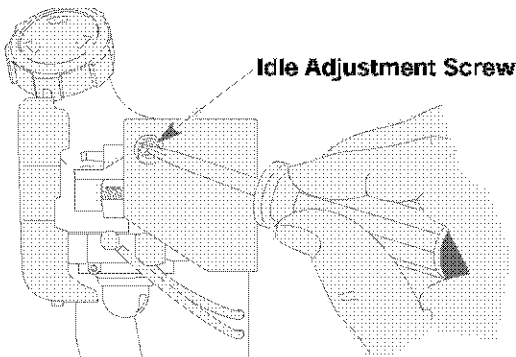

Fig. 50
The idle speed of the engine is adjustable. An idle adjustment screw is reached through a hole in the top of the engine cover (Fig. 50).
2. Release the throttle trigger and let the engine idle. If the engine stops, insert a small phillips or flat blade screwdriver into the hole in the air filter/muffler cover (Fig. 50). Turn the idle speed screw in, **clockwise**, 1/8 of a turn at a time (as needed) until the engine idles smoothly.